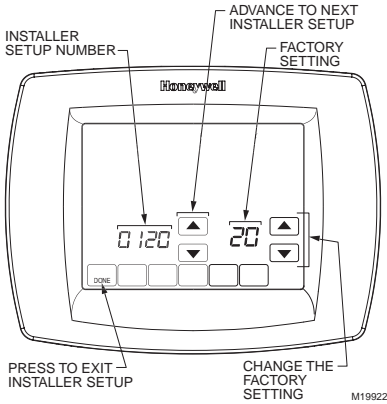

Fig. 23. Installer Setup Number and factory setting selection locations.
- The Installer Setup Number is displayed in the lower left. It is a four-digit code beginning with zero. The factory setting or other choice selection is displayed in the lower right. See Fig. 23. This is a two-digit code shown in the Option column of Table 4.
- Advance to the next Installer Setup Number by pressing the up and down arrow keys to the right of the four-digit Installer Setup Number. See Fig. 23.
- Change the factory Setting Options by pressing the up and down arrow keys to the right of the two-digit code selection. See Fig. 23.